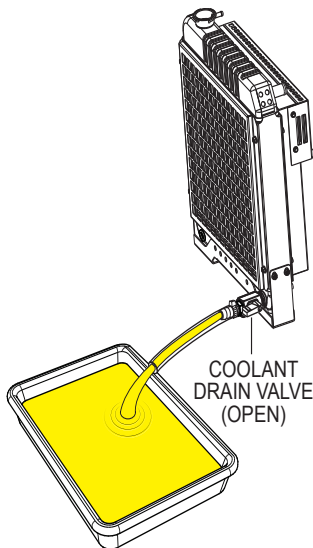

Figure 77. Draining The Engine Coolant
2. Place the **coolant drain valve** in the **OPEN** position (Figure 77) and allow the coolant to drain into a suitable container.